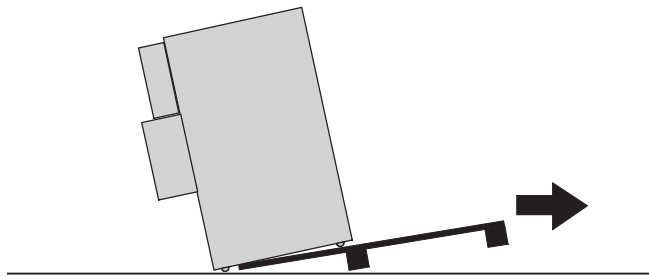

Figure 5. Removing the Pallet
9. With the cabinet supported, slowly pull the pallet away from the cabinet (see Figure 5).